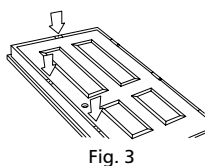

Fig. 3
- If your prehung door is fastened in the closed position with a duplex nail or removable plastic plug, remove these along with the packaging and crating. NOTE: If your door unit has pre-hanging clips (Fig. 3), do not remove them until instructed to do so. These clips hold the door system aligned and closed during installation.